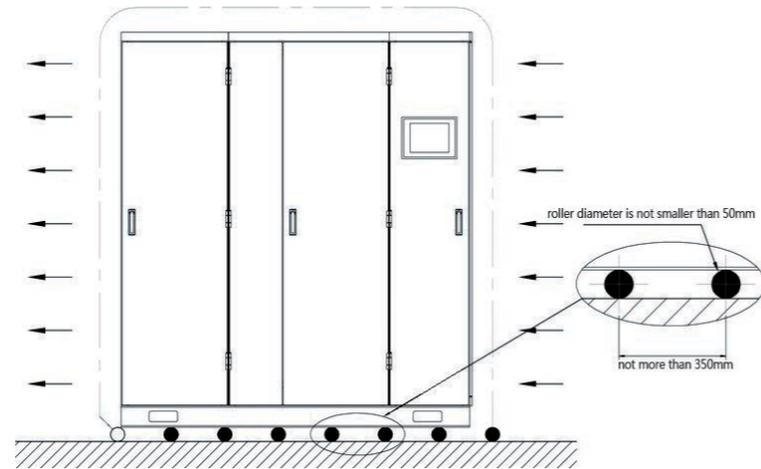

Figure 6.7 Roller Handling Diagram
4) Roller handling: Place rollers in a row on the floor, put the cabinet on these rollers and move the rollers for handling (as shown in Figure 6.7). Roller length must be larger than cabinet width.